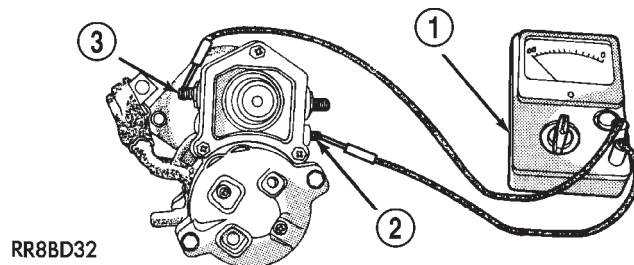

Fig. 7 Continuity Test Between Solenoid Terminal and Field Coil Terminal - Typical
(1) Remove starter motor. Refer to **Starter Motor** Removal and Installation.
(2) Disconnect wire from solenoid field coil terminal.
(3) Check for continuity between solenoid terminal and solenoid field coil terminal with continuity tester (Fig. 7). There should be continuity. If OK, go to Step 4. If not OK, replace faulty starter motor assembly.